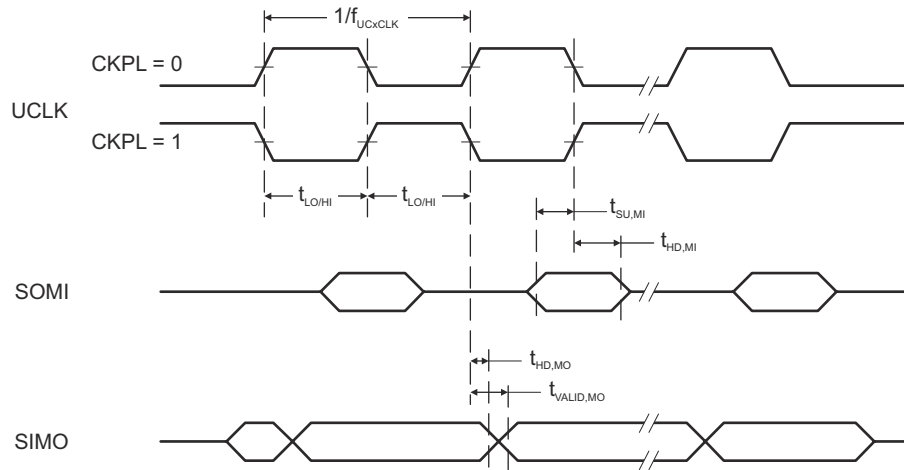
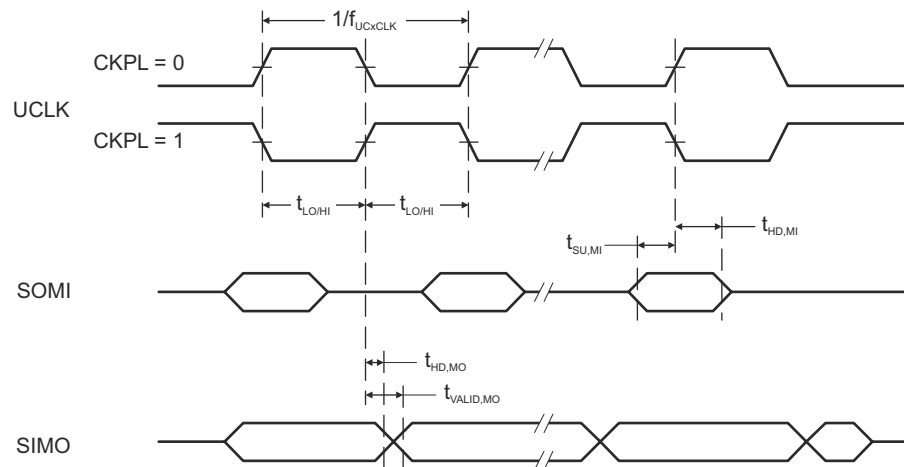

Figure 8-12. SPI Master Mode, CKPH = 0
Figure 8-13. SPI Master Mode, CKPH = 1
(see Figure 8-12 and Figure 8-13)
- (2) Specifies the time to drive the next valid data to the SIMO output after the output changing UCLK clock edge. Refer to the timing diagrams in Figure 8-12 and Figure 8-13.
- (3) Specifies how long data on the SIMO output is valid after the output changing UCLK clock edge. Negative values indicate that the data on the SIMO output can become invalid before the output changing clock edge observed on UCLK. Refer to the timing diagrams in Figure 8-12 and Figure 8-13.
- (2) Specifies the time to drive the next valid data to the SOMI output after the output changing UCLK clock edge. Refer to the timing diagrams in Figure 8-12 and Figure 8-13.
- (3) Specifies how long data on the SOMI output is valid after the output changing UCLK clock edge. Refer to the timing diagrams in Figure 8-12 and Figure 8-13.